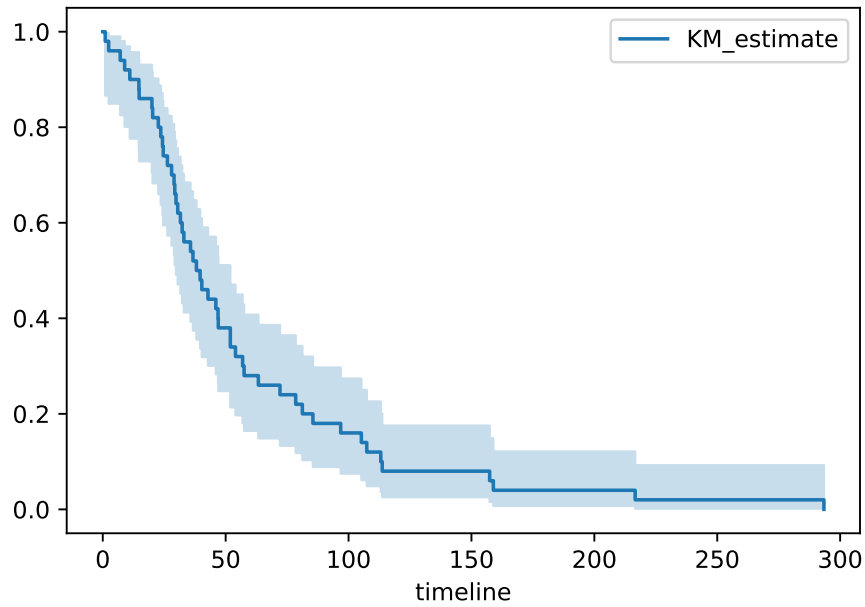

Fig. 9.5: Kaplan-Meier Estimator of The Reliability of An Electric Device
**Solution 9.22** Use the `lifelines` package to fit a Kaplan-Meier estimator. The reliability function is shown in Fig. 9.5.